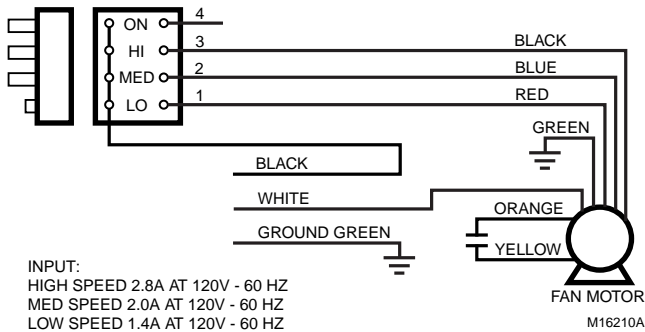

Fig. 5. Typical F118 120V, 60 Hz Wiring Diagram.
1. Pull the wire to the electrical box through the hole in the top of the cabinet. Refer to Fig. 5 for typical wiring diagrams.